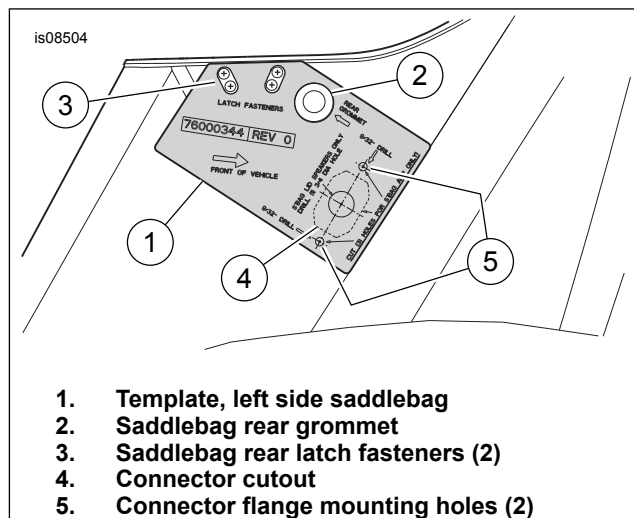

Figure 3. Left Saddlebag Drilling For Stage II Amplifier Installation
- Place the saddlebag on a protected surface with the mounting (inboard) side facing up. See Figure 3. Place the template (1) on the saddlebag. Align the grommet (2) and latch fastener (3) openings. Trace the cut outline (4) for connector [288A] onto the saddlebag. If saddlebag lid speakers are present from a previous installation, left side speaker wires could be in the connector cutout location. Remove the wire and grommet.
- Carefully cut the cutout (4) in the template (1) for connector [288A] on the dashed line.
- Drill two pilot holes (5) for the connector flange mounting locations.
- See Figure 3, Item 5. Drill two 7.25 mm (9/32 in) holes at the connector flange mounting pilot hole locations.